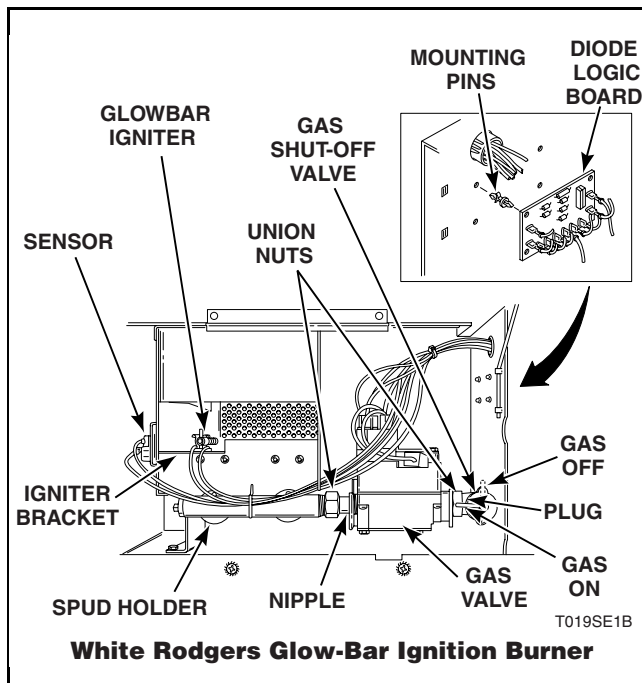

Figure 22
- Close gas shut-off valve. Refer to *Figure 22*.
- Disconnect wires from diode logic board terminals. Refer to *Figure 22*.